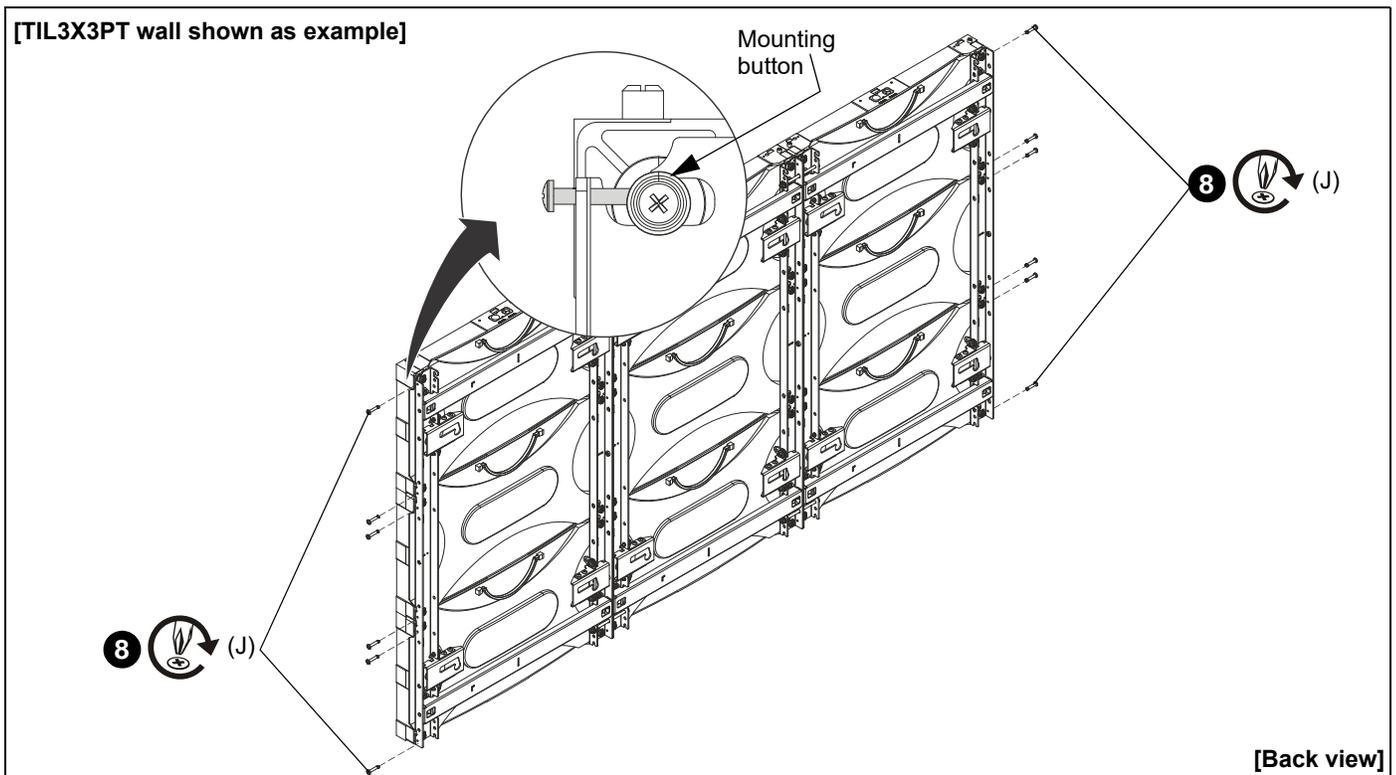

Figure 16
8. **OPTIONAL:** Install two 10-24 x 1" Phillips head cap screws (J) **per housing** on far right and far left column of mounts if housings need to be moved further left or right of center. (See Figure 16)